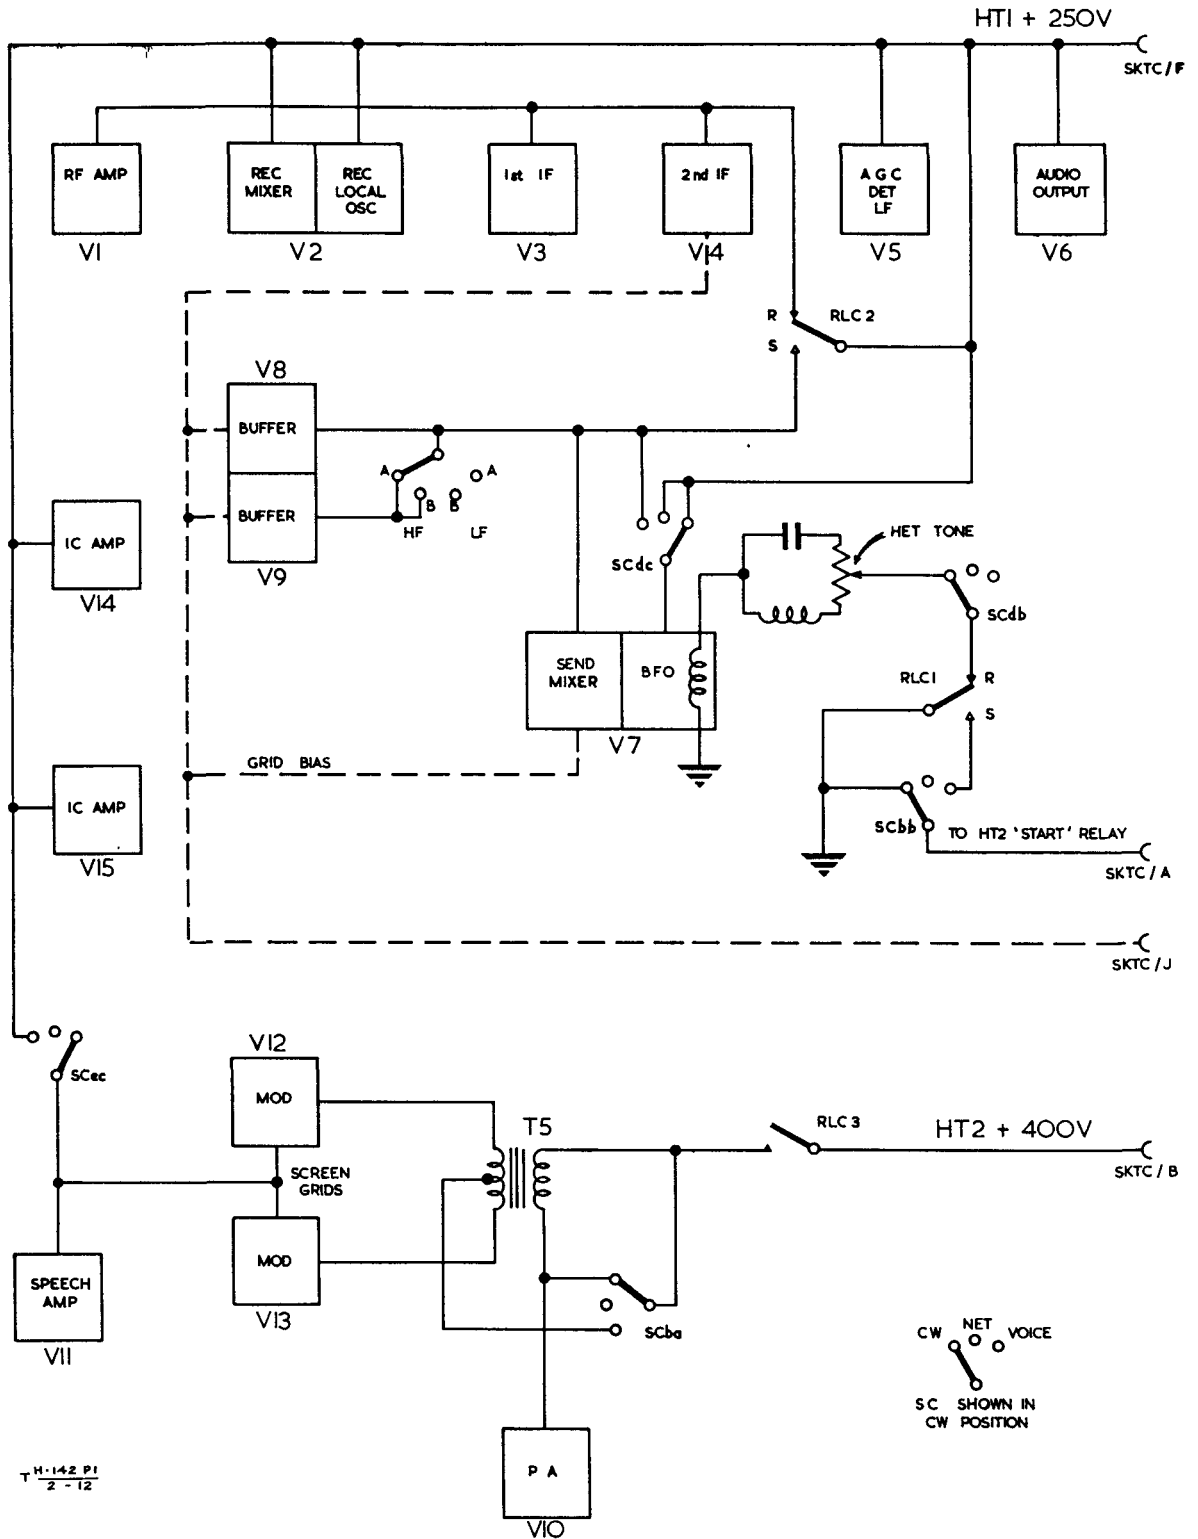

Fig 12 - Send/receive switching
Power supplies and switching (Figs 12 and 1001)
30. When the pressel switch is unoperated, RLC, the send/receive relay, is in the position shown in Fig 12. HT1 is applied directly to V6, V5, V2, V14 and V15. HT1 is applied via RLC2 normal to V1, V3 and V4. With the system switch SC in the VOICE position HT1 is applied via SCec to the anodes of the speech amplifier V11 and the screens of the modulator output valves V12 and V13. With SC at VOICE, no HT1 is applied to the triode portion of V7, the sender mixer valve, but in the NET and CW positions of SC it is connected via SCdc, in order that V7 may provide the heterodyning voltage required for netting and the reception of c.w. signals. In the CW position the frequency of the oscillator can be varied by means of variable damping, applied by means of an earth connection through SCdb and RLC1 normal. In the NET position the centre-frequency of 460kc/s is required for netting and the earth connection is removed.
- (b) RLC2 (Fig 12) removes the h.t. from receiver valves V1, V3 and V4, thus muting the receiver. It applies h.t. to the heptode section of V7, to the buffer amplifier V8 and to V9 if SA is in either HF position. If SC is in the VOICE position h.t. is applied to the b.f.o. section of the sender mixer for as long as the pressel switch is operated; if SC is in the CW position h.t. is applied to the b.f.o. irrespective of the state of the pressel switch.
- (c) RLC3 (Fig 12) applies the 400V HT2 to the p.a. valve V10. With the system switch at CW the secondary of the modulator transformer T5 is short-circuited by SCba. In the VOICE position SCba connects HT2 to the centre-tap of T5 primary, thus supplying the modulator output valves V12 and V13, and removes the short circuit from T5 secondary, so that V10 receives its HT2 via this winding.